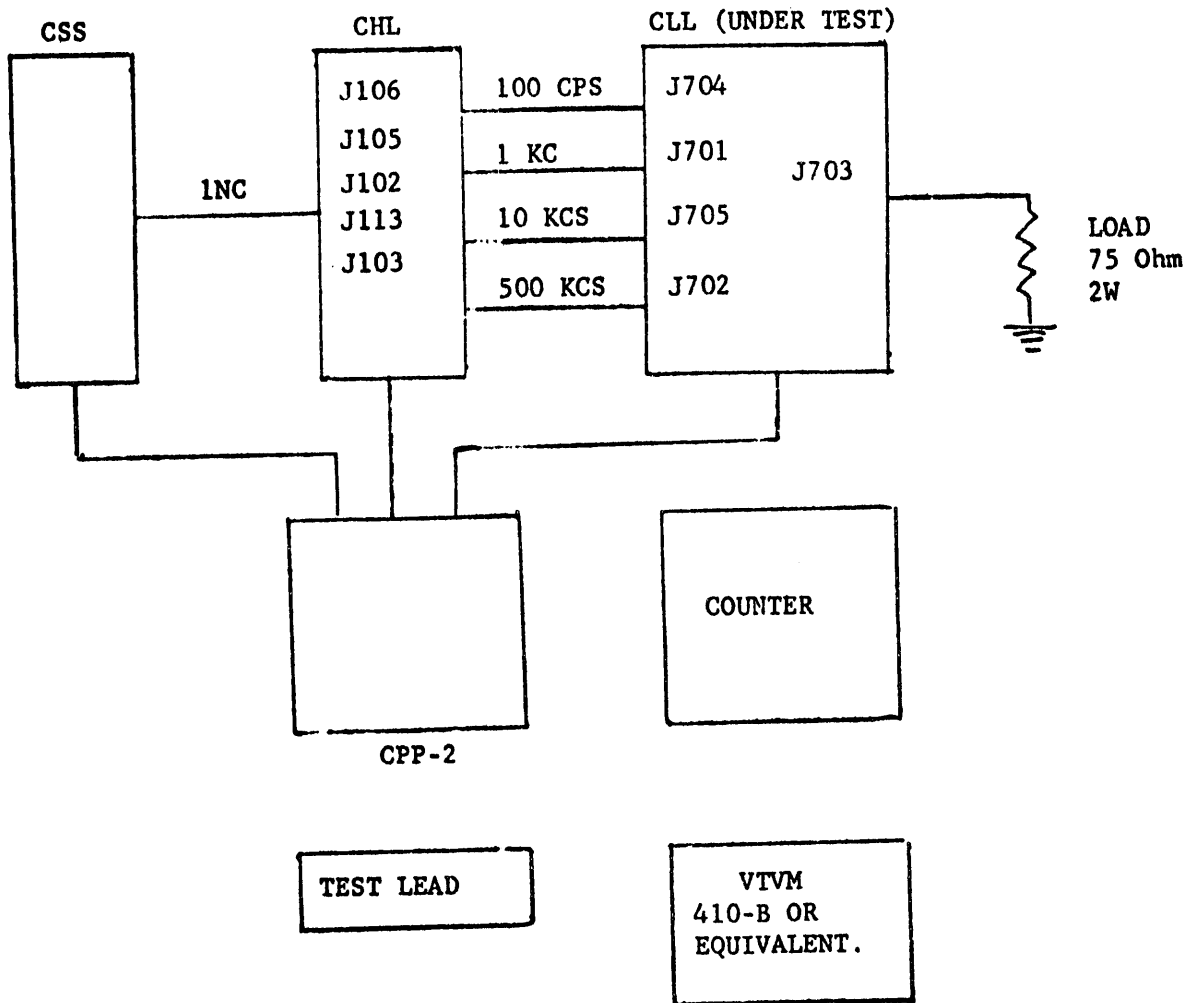

Figure III-6-6: Test Set Up
III-6-8 Test Procedure for Low Frequency Loop (Controlled Oscillator) Model CLL-1 (Figure III-6-6).
- (a) Set-up all equipment as shown in figure III-6-6.